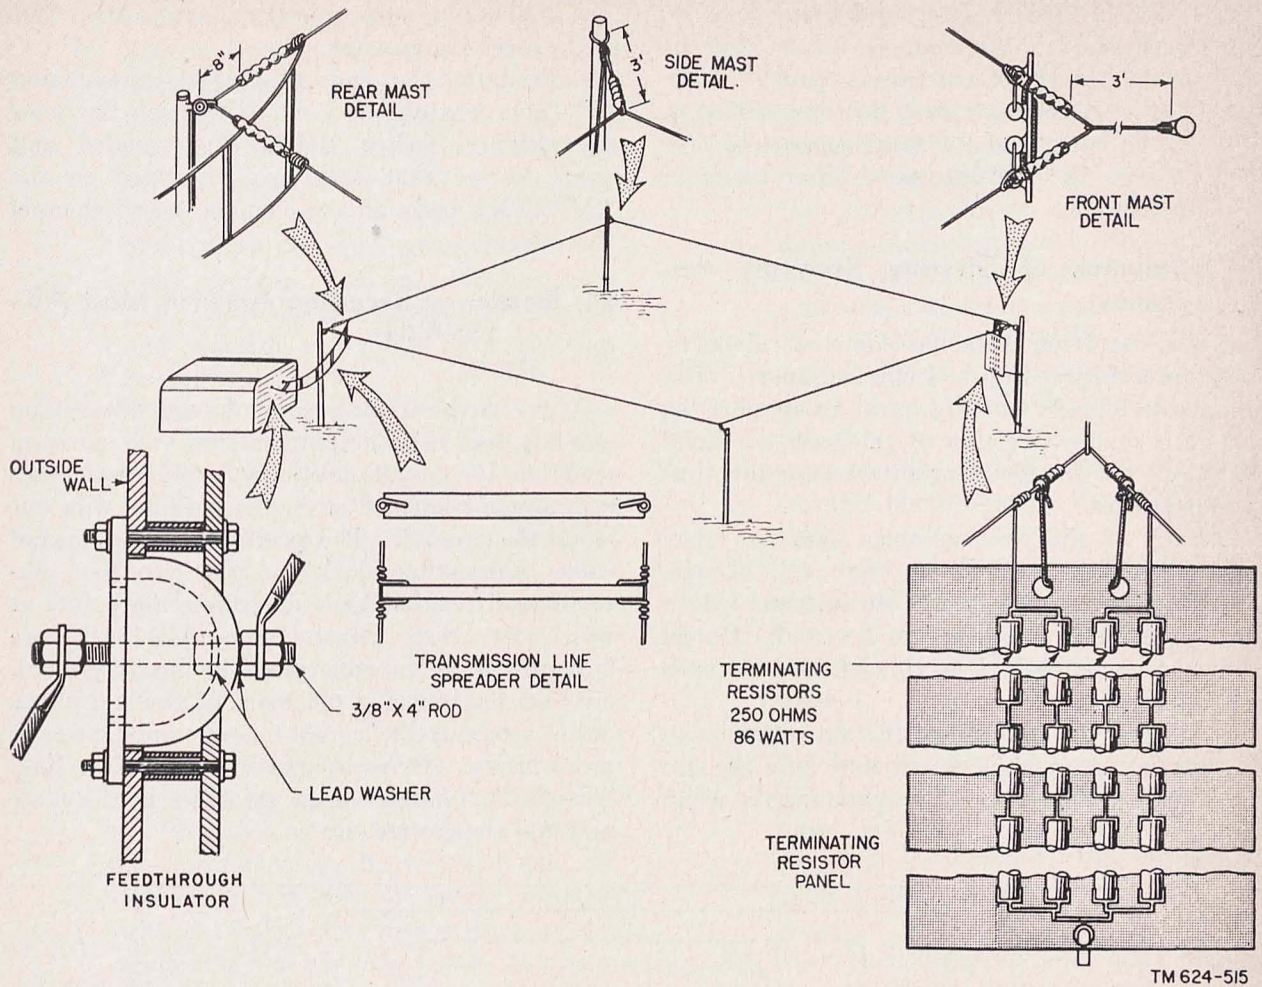

Figure 39. Rhombic antenna construction details.
gives mast-to-mast lengths (X plus Y) and mast-to-mast widths (W). (Note that Y is always 2 feet longer than X to allow room for the terminating resistor panel shown in figure 39.) Determine the mast locations with an accuracy of  $\pm 1$  foot.
- (2) Place a single transmitting antenna insulator on one wire. Slide the insulator down the antenna wire to a point between the side masts. Similarly, slide another transmitting insulator on the other wire.
- (3) Fasten one insulator to each end of both the antenna wires by sliding 6 inches of the antenna wire through one end of the insulator, bringing it around and warping the free end of the wire around the antenna four or five times (fig. 39). Cut off the excess wire.
- (4) Repeat the procedure as indicated in (3) above at the other end of the transmitting antenna wire.
*g. Assembly and Installation of Resistor Board* (fig. 39).
- (1) Attach the 20 fuse clips to the plastic terminal board; use the 10-32 x  $\frac{1}{2}$ " long machine screws, hexagonal nuts, and washers.
- (2) Mount the 12 noninductive resistors in the fuse clips and wire them series-parallel.
- (3) Cut two lengths of Wire W-128 and connect each parallel bank of resistors on the resistor terminal board to the two legs of the antenna wire. Make a good sound mechanical connection. Then make a good electrical connection by soldering the joints.
- (4) Mechanically support the resistor terminal board by threading a piece of Rope RP-5 through the two holes at the top
end of the board and tie each end to the antenna wire next to the insulator (fig. 39).
(fig. 39)
*b.* Attach spreaders to the two wires of the transmission line at 5-foot intervals. Place the spreader so that the wires of the transmission line fit into the notches at each end of the spreader. Secure the spreader to each wire of the transmission line by inserting a 6-inch piece of No. 18 AWG wire through the hole near the end of the spreader and twist the ends of the wire tightly around the antenna wire. Figure 39 shows details of the transmission line construction.